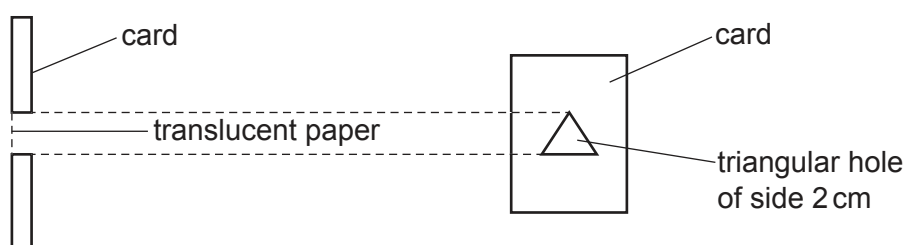

Fig. 7.1
- The object can be made by cutting a triangular hole in a piece of white card and covering the hole with translucent paper, as shown in Fig. 7.1.
The orientation of the triangle must be as shown in Fig. 7.1.